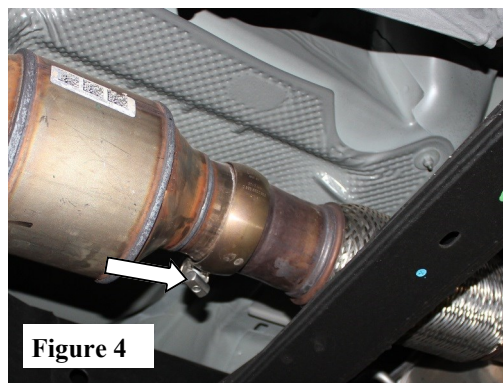

Figure 4
1. Place the front pipe into position making sure to install the hanger into the rubber isolator. (See Fig. 4)